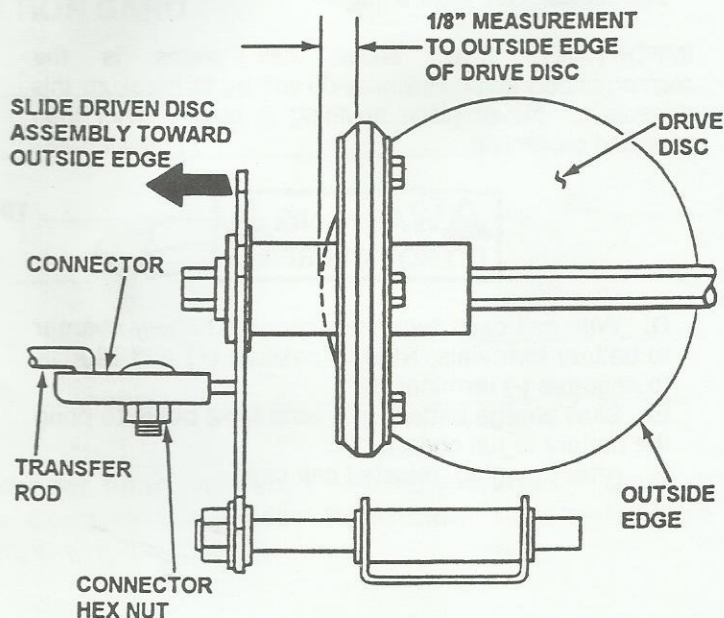

FIGURE 14
C. Slide driven disc assembly over until $1/8"$ from outside edge of drive disc. Maintaining the $1/8"$ measurement, remove any looseness from the linkage. This can be done by holding the transfer rod and applying pressure to the left (as viewed from operators position), then retighten the connector hex nut securely. See Figure 14. Move shift rod to the number one speed position, then back to the number six speed position. Recheck the $1/8"$ measurement described previously. Reinstall driven disc spring to driven disc assembly.